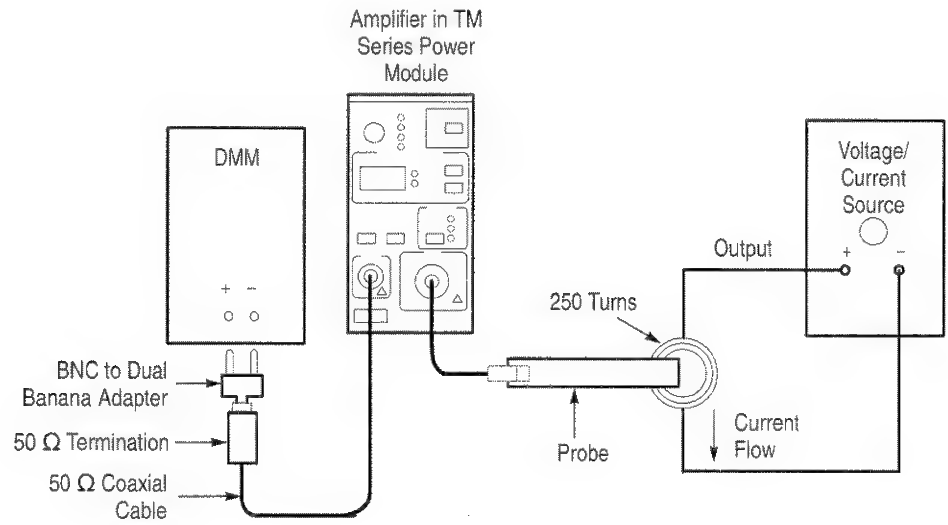

Figure 5-8: DC Accuracy Test Setup for A6303/A6303XL: 500 mA to 50 A
5. Clamp the current probe around the 250 turn current loop. Check that the arrow-shaped indicator on the probe points away from the current source. Refer to Figure 5-8.